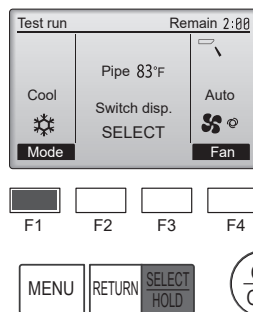

Fig. 7-5
- ① Press the [F1] button to go through the operation modes in the order of "Cool" and "Heat". (Fig. 7-5)